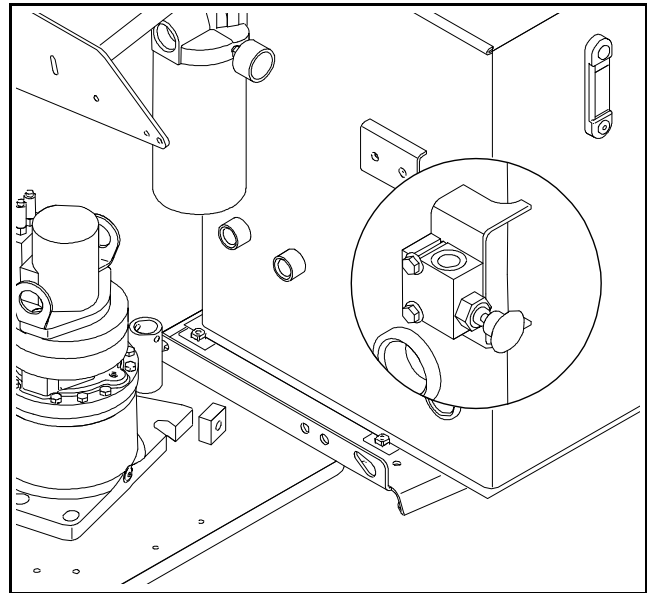

Figure 4-26. Releveling Valve
A pull type control valve allows the operator to adjust the upright level cylinder if the upright is not 90° (vertical) relative to the chassis (Refer to Figure 4-26.). This valve is located in the tank compartment area.
3. Pull and hold the red releval knob located next to the main control valve. Refer to Figure 4-26.